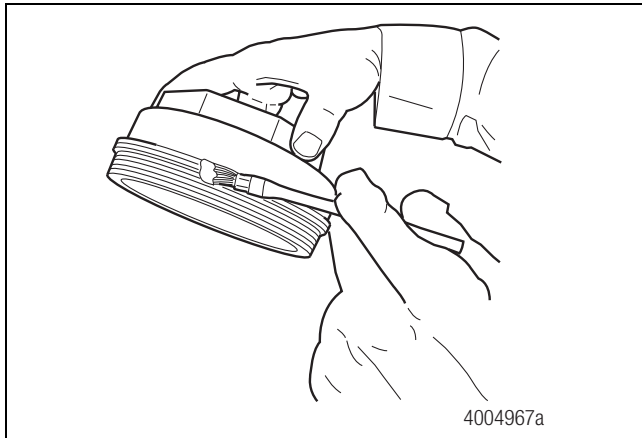

Figure 3.34
12. Lightly lubricate the hubcap O-ring and the hubcap threads with bearing grease. Figure 3.34.